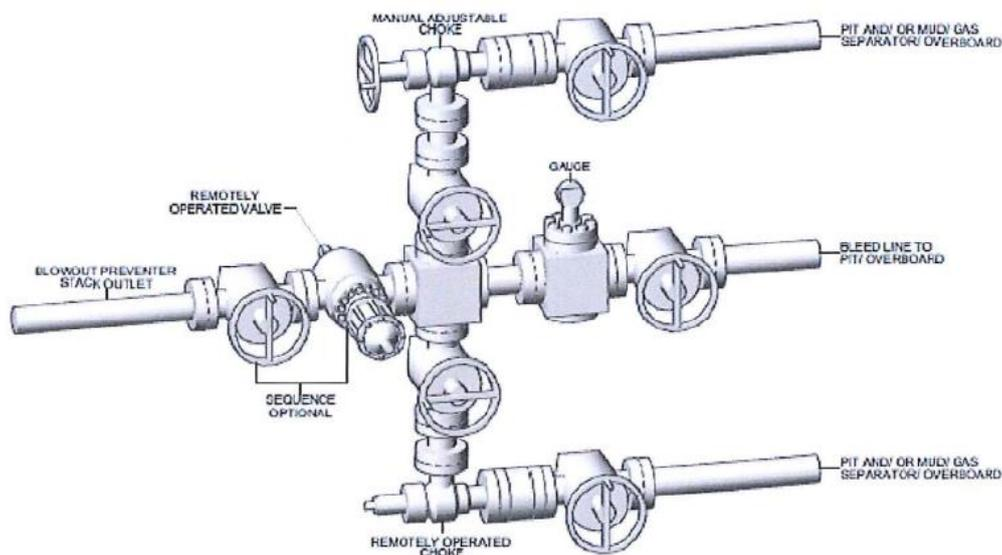

Figure 2—Example Choke Manifold Assembly for 5K Rated Working Pressure Service—Surface BOP Installations
- Figure 2 – Example Choke Manifold Assembly for 5K Rated Working Pressure – Surface BOP Installations